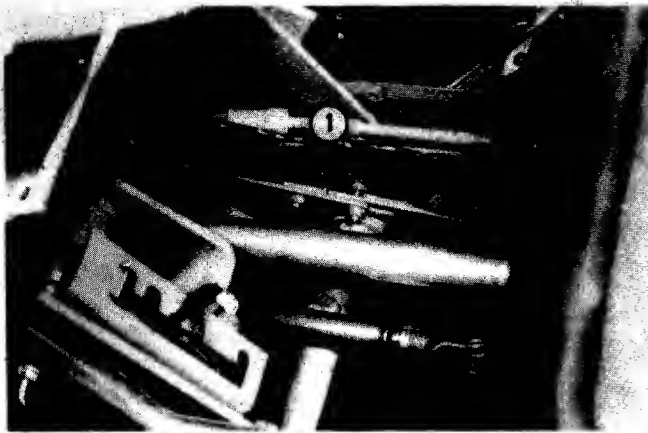

FIG. 4.26-FORWARD/REVERSE LINKAGE
2. Loosen nut on brake rod to end of rod Fig. 4.26.
11. Adjust Forward/Reverse linkage Fig. 4.26 to obtain pedal position to suit operator.